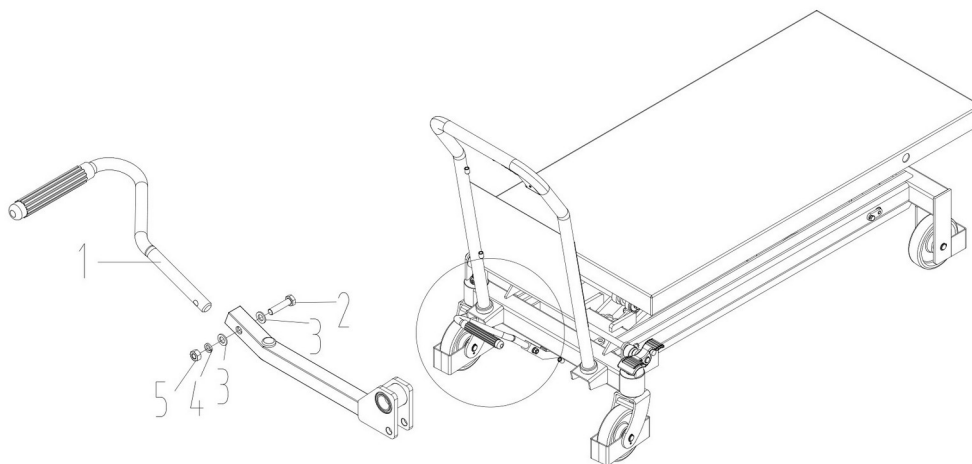

Figure 1b - Foot brake lever assembly.
20. Insert the foot brake lever (1) into the hole in the square bar (2) (Figure 1b).
22. Fit the plain washer (3) and spring washer (4).
23. Tighten nut (5) securely.